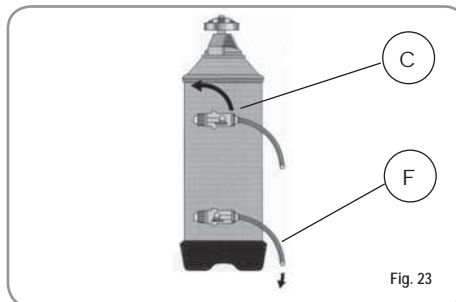

Fig. 23
2) Put the cap back on and reposition lever C moving it towards the left (Fig. 23) and allowing tube F to discharge the salty water until it has been eliminated and the water becomes fresh again (about half an hour).